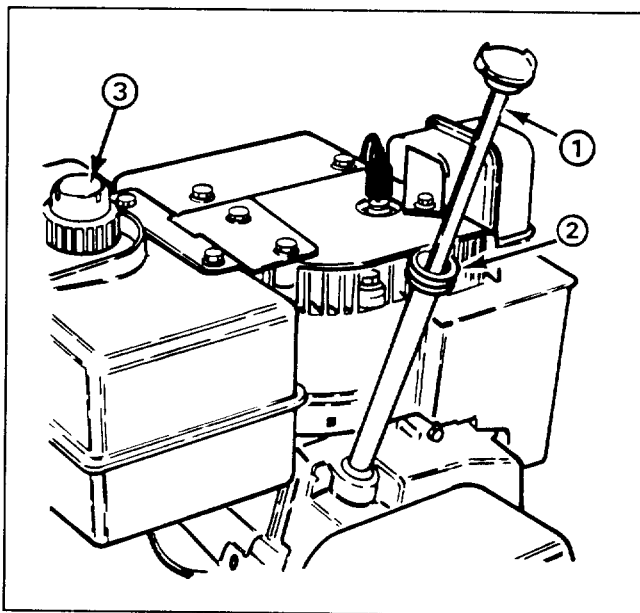

Figure 11
### FILL CRANKCASE WITH OIL (Fig. 11)
1. Clean area around the fuel tank cap (Fig. 11). Remove cap from fuel tank. Using unleaded, regular gasoline, fill tank to within 1/4" to 1/2" (6 to 13 mm) from the top of the tank, not into the filler neck. This space is for expansion of fuel. Do not fill tank full. Reinstall fuel tank cap.